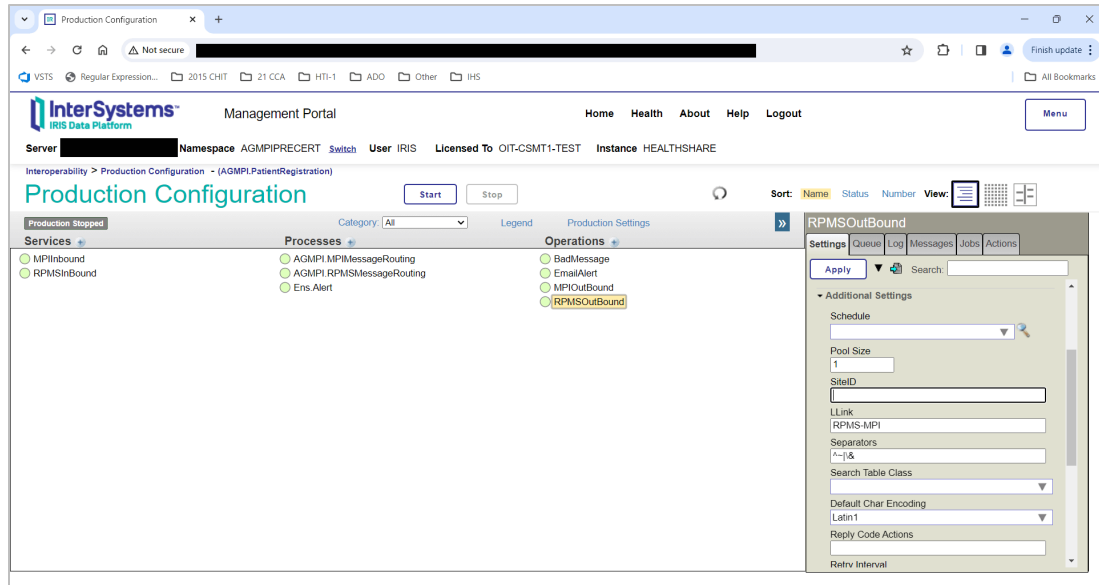

Figure 5-22: **Production Configuration**, RPIOutBound settings
1. Click **RPMSOutBound** on the **Production Configuration** page to display the RPMSOutBound configuration settings, as shown in Figure 5-22.